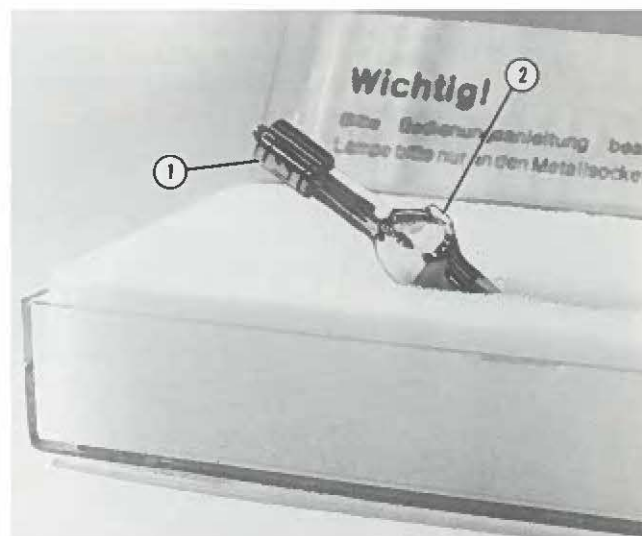

FIGURE 3-2 HBO MERCURY LAMP
3.1.3 Carefully remove the lamp from its box, handling the metal ends only. It will be marked at its top with the designation L1 or L2 (see Figure 3-2).